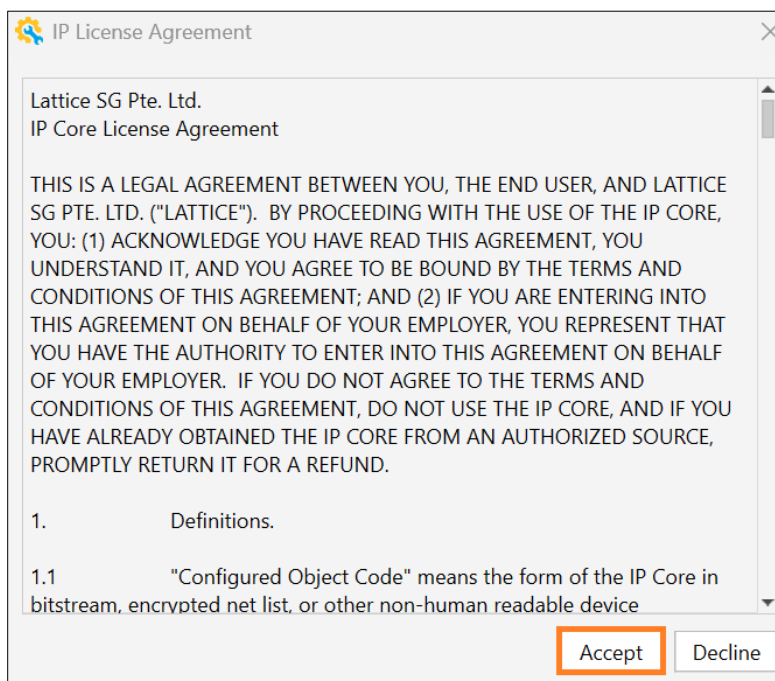

Figure 5.11. IP License Agreement
- d. In the **IP License Agreement** window, click **Accept** to finish the IP installation, as shown in Figure 5.11.